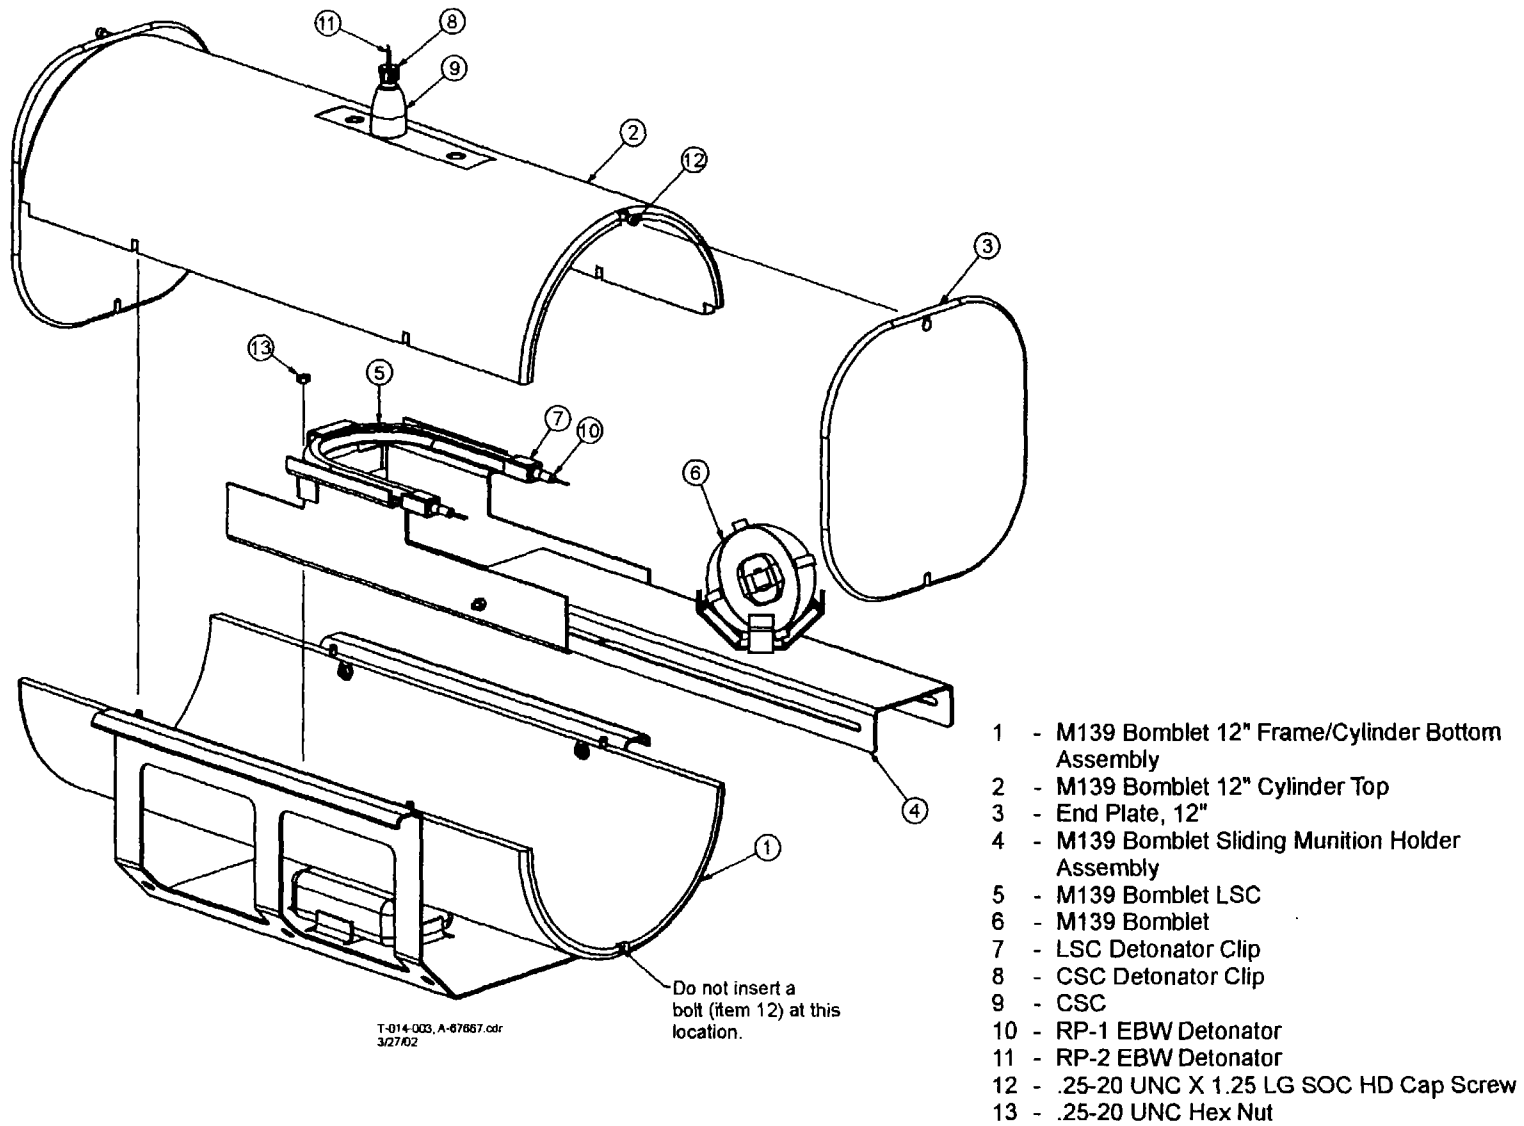

Figure 7-5. M139 Bomblet FSS
- 7.4 **VERIFY** M139 bomblet holder base is secured to cylinder bottom (Figure 7-5).